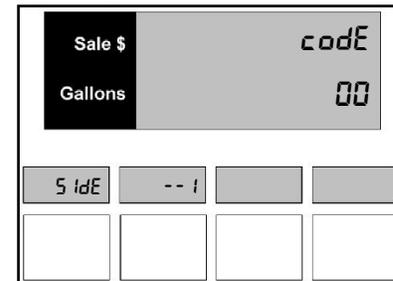

Figure 3.3 – Access Code Gained
4. When access is gained, press the **Cancel** button to exit. It is necessary to exit Menu Code 3 before the remaining protected menus can be accessed. The display shown in *Figure 3.3* appears when the cancel button is pressed.